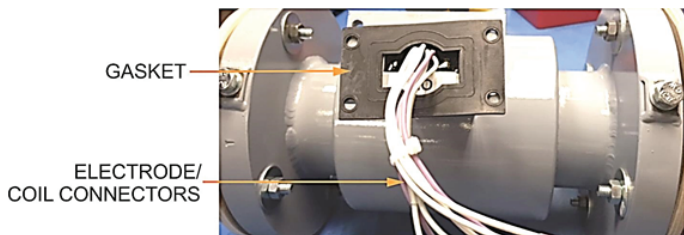

Figure 3: M2000 amplifier housing
4. Disconnect the *electrode* and *coil* connectors in the amplifier housing. See *Figure 3*.
5. Using the 4 mm or 5/32 in. bit and electric driver, remove the bottom four bolts and washers from the amplifier and slide the detector away from the amplifier making sure the gasket is not lost. See *Figure 3*.